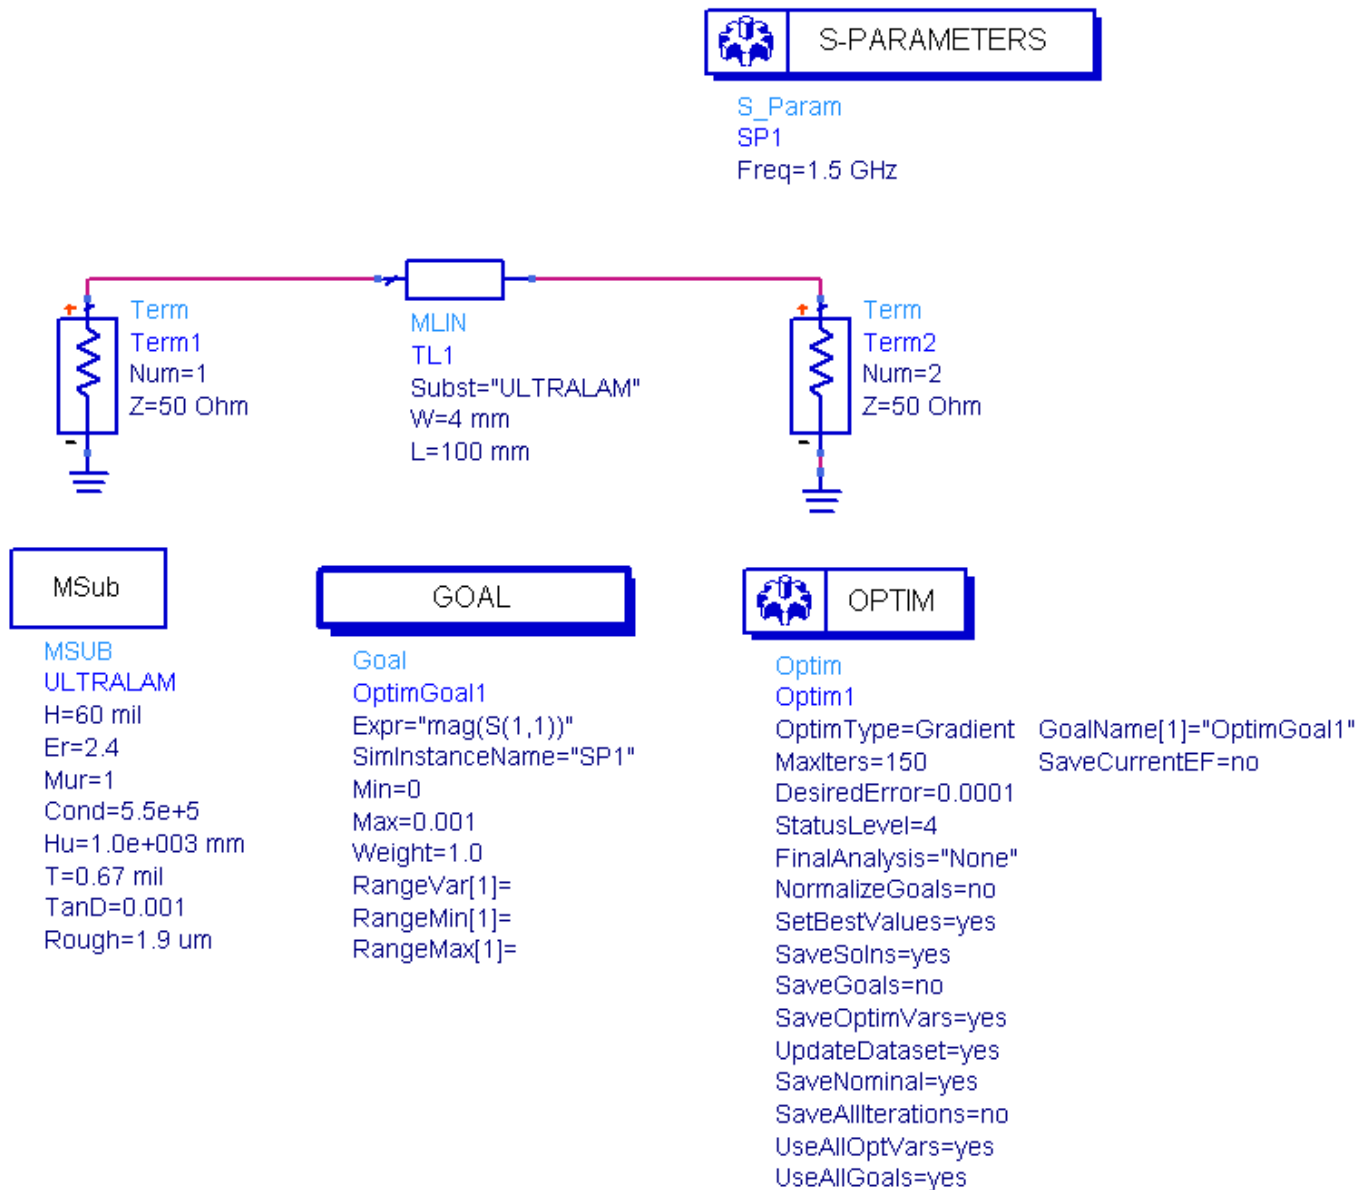

Figure 1.4 Circuit for Nominal Optimization of microstrip transmission line.
1. Replicate the circuit of Figure 1.4. The Microstrip Line component (**MLIN**) and Microstrip Substrate (**MSUB**) are found in the **TLines-Microstrip** component palette. The Optimization Controller (**Optim**) and Optimization Goal (**Goal**) are found in the **Optim/Stat/Yield/DOE** palette.
Change the parameter values under each component to match figure 1.4 exactly. As was already mentioned, a component parameter can be changed in the component properties window or by simply clicking the parameter value in the schematic window (if listed under the component) and typing in the new value.
2. Once you have replicated the circuit of Figure 1.4, you must initiate a **Nominal Optimization** of the MLIN **width** parameter (**W**) in order for ADS to determine the “optimum” value that will satisfy the design goal of $|S_{11}| < 0.001$ at **1.5 GHz**.
5. Go to **Simulate** → **Update Optimization Values**. This updates the value of **W** to the new optimized value generated by the nominal optimization. Your optimized value will probably be near 4.4 mm. If not, inspect your schematic to make sure it matches Figure 1.4.